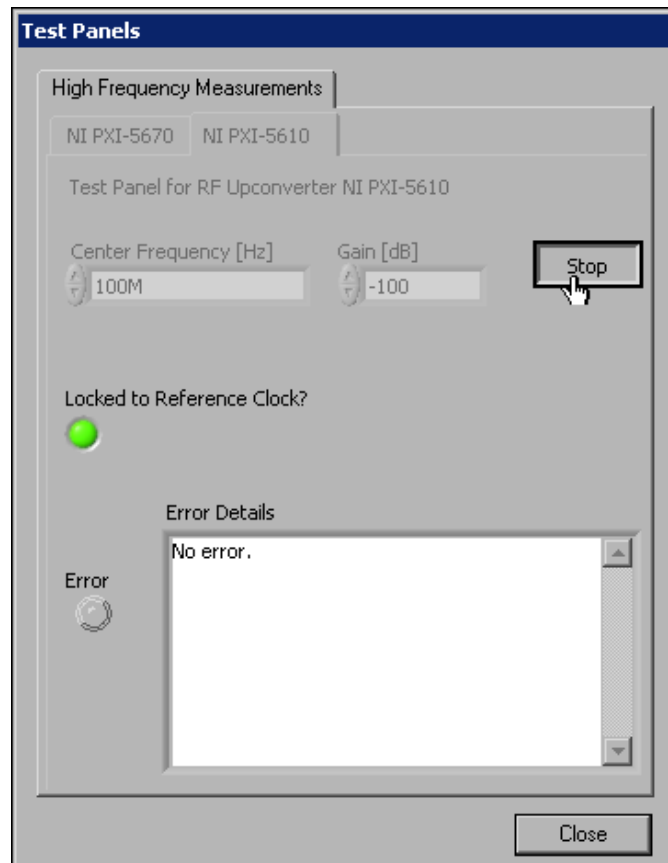

Figure 6. The NI 5670 Test Panel During Operation
13. During operation of the test panel, the ACTIVE LED on the NI 5610 upconverter module front panel is illuminated, and the test panel is displayed as shown in Figure 6.